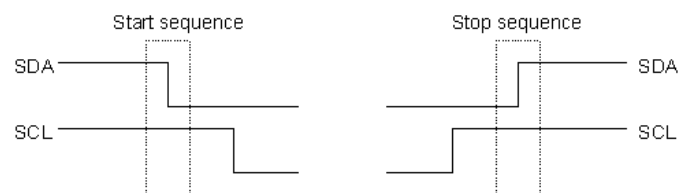

Figure 3: 'Start' and 'Stop' sequences
- Data transfer is coordinated by two special sequences* (figure 3):